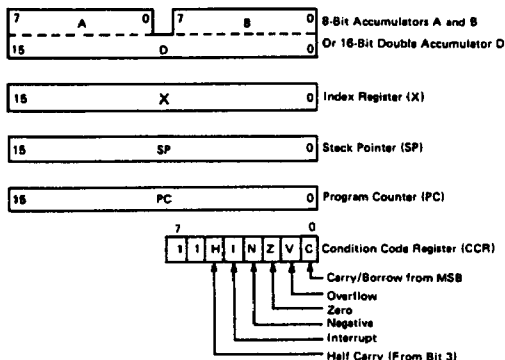

Figure 23 CPU Programming Model
- CPU programming model (See Fig. 23)
The programming model for the HD63701V0 is shown in Figure 23. The double accumulator is physically the same as the accumulator A concatenated with the accumulator B, so that the contents of